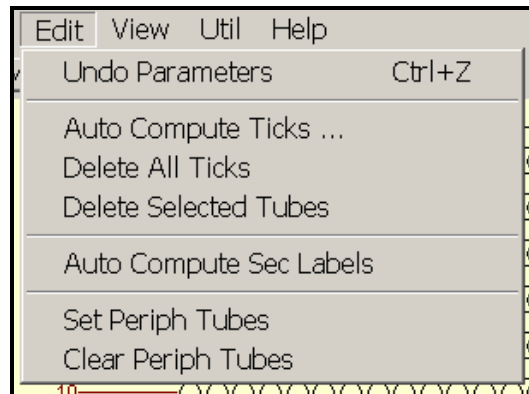

Figure 10. Edit Menu
As shown in Figure 10, the **Edit** menu contains seven (7) choices. Each item is discussed below.
- o **Edit | Undo** (Ctrl+Z) will *undo* the last action performed. Continuing to select **Undo** will continue to *undo* previous actions up to the last 20 actions performed. A description of the next available action to be *undone* is displayed next to **Undo** in the **Edit** menu. For example in Figure 10, the last action was a change in the **Parameters** dialog. If no actions are available to be *undone*, then the **Undo** selection will be grayed out.